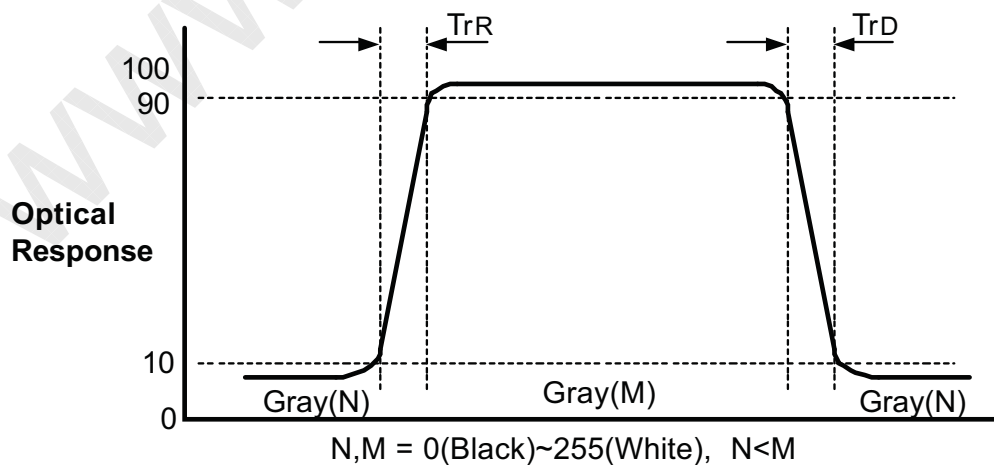

FIG. 3 Response Time
4. Response time is defined as the required time for the transition from G(N) to G(M) (Rise Time,  $Tr_R$ ) and from G(M) to G(N) (Decay Time,  $Tr_D$ ). For additional information see the FIG. 3. ( $N < M$ )